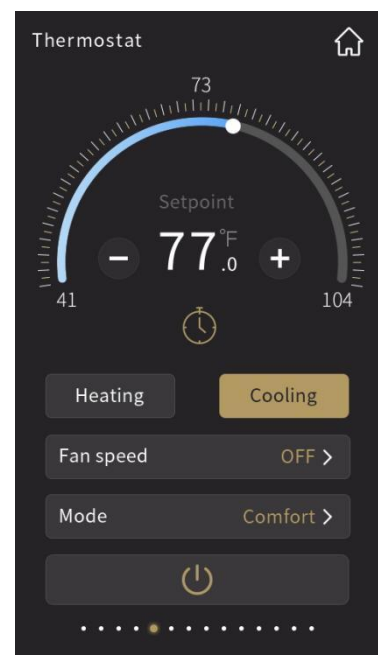

Fig.2.3.3
- ⑤ The function of this icon is to decrease the temperature;
**⑥ The function of this icon is to increase the temperature;**
Adjusting the temperature by sliding the ring slider④ or touching the icon⑤ and icon⑥. For each touching of icon⑤ and icon⑥, the adjustment range is 0.5 degrees. When the setting temperature unit is set to degrees Celsius(°C), as shown in 2.3.1, adjustment range of the setting temperature is 5~40°C by default; when the setting temperature unit is set to Fahrenheit(°F), the current temperature value will automatically convert to Fahrenheit value, as shown in Fig.2.3.3, adjustment range of the setting temperature is 41~104°F by default. The temperature adjustment range can be modified through parameter setting.